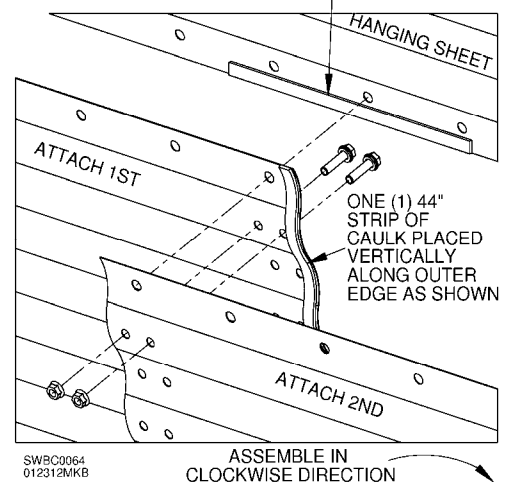
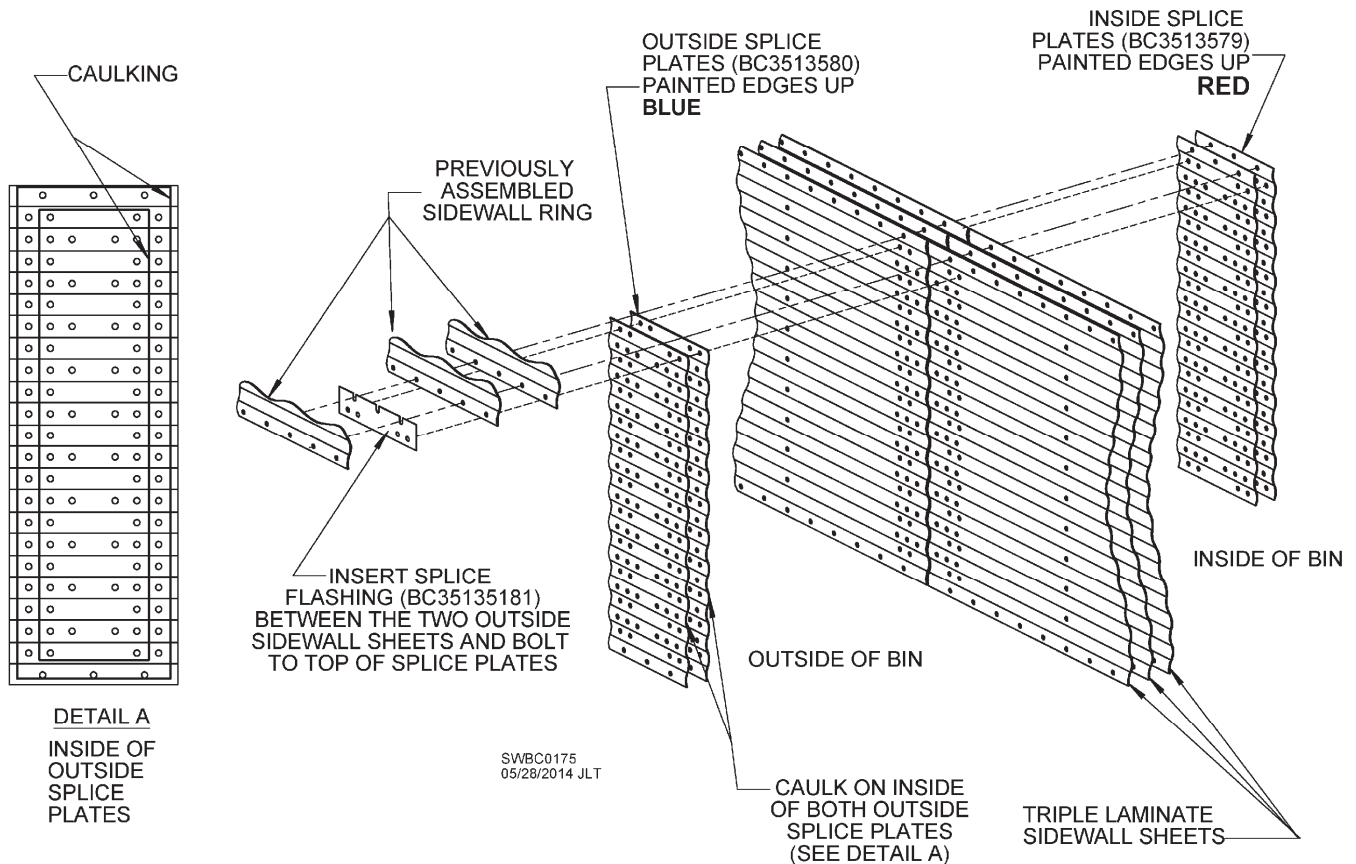

Fig. 3
Fig. 4 – Splicing laminated sidewall sheets (Triple-laminate sheets shown)
Wipe vertical edge of panel clean and apply 44" strips of caulk as shown in Fig. 3, depending on whether panels will be attached as single sheets or double-laminated. For triple- or quadruple-laminated sheets, apply caulk as shown in Fig. 4. Attach panels as shown in Figs. 3 or 4 using bolts listed on color gauge chart.
Triple- and quadruple-laminated sheets hang like single sheets and double-laminated sheets except there is no vertical seam overlap. Sheets butt up against each other. As shown in Fig. 4, two (2) splice plates are used both inside and outside of bin. Inside splice plates are color-coded red, painted on one edge only. **IMPORTANT:** Always keep painted edges up. **NOTE:** Tops of inside splice plates attach at a horizontal seam; tops of outside splice plates attach just below horizontal seam. Attach splice plates after all triple- or quadruple-laminated sheets are hung. Inside splice plates can be assembled after all laminated sheets are hung.
IMPORTANT: Insert splice flashing between two outermost sidewall sheets as shown in Fig. 4.
As shown in Fig. 4 Detail A, apply caulk to perimeter on inside of each outside splice plate. Apply another line of caulk as shown between lines of bolt holes of each outside splice plate. Inside and outside splice plates will be attached with same hardware. Consult color chart for proper size of bolts.